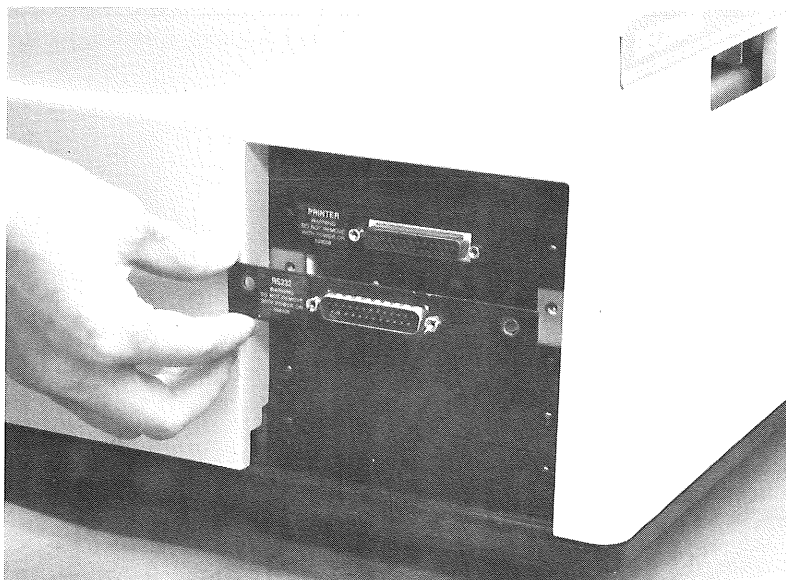

Figure 3.
5. Slide the RS-232 board into the open position. Push to seat. Secure the board with the two screws removed in step 4. See Figure 3.
7. The RS-232 board contains a standard DB-25 male connector, as shown in Figure 3. The cable, therefore, must have a standard DB-25 female connector to attach to the RS-232 board. Beckman offers a null modem cable, P/N 598383, which can be used with most computers.